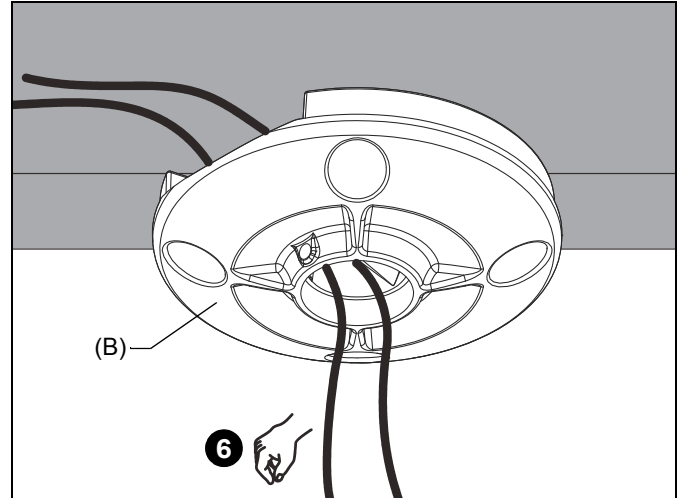

Figure 6
- Route cables through channel in ceiling plate (B). (See Figure 6)